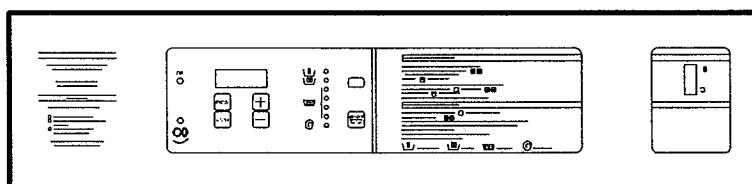

fig. 2
- STANDARD MICROPROCESSOR version (SM). (fig. 2)
- Variante STANDARD MICROPROCESADOR (SM). (fig. 2)
- Version STANDARD MICROPROCESSEUR (SM). (fig. 2)